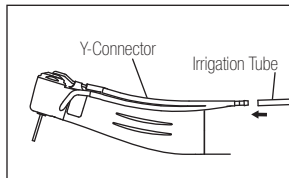

Fig. 8
- 1) Connect the ends of the Y-Connector to the External Spray Nozzle and Internal Spray Nozzles refer as detailed in procedures (1) and (2).
- 2) Connect the Irrigation Tube to the Y-Connector firmly.(Fig.8)